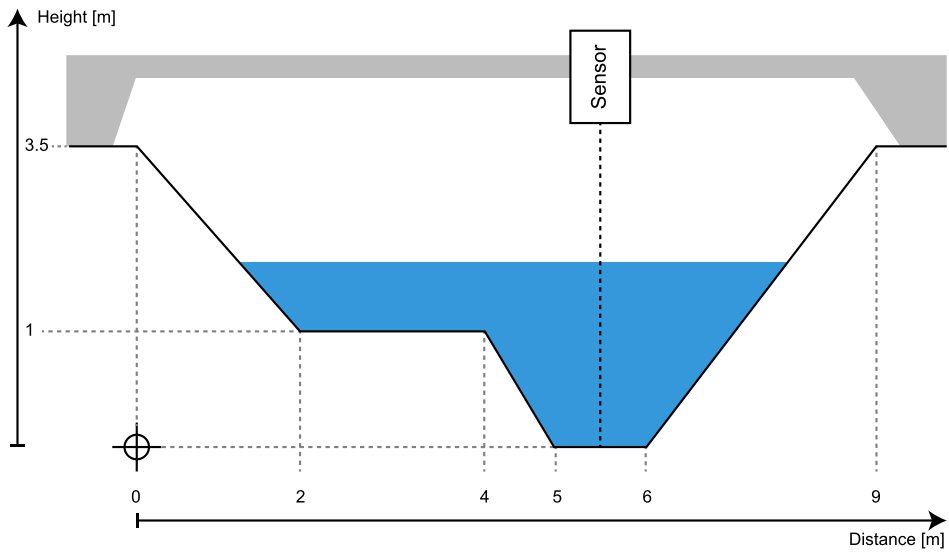

Figure 13 Cross-Sectional profile with height relative to bottom
- height relative to bottom with positive values upwards, see Figure 13